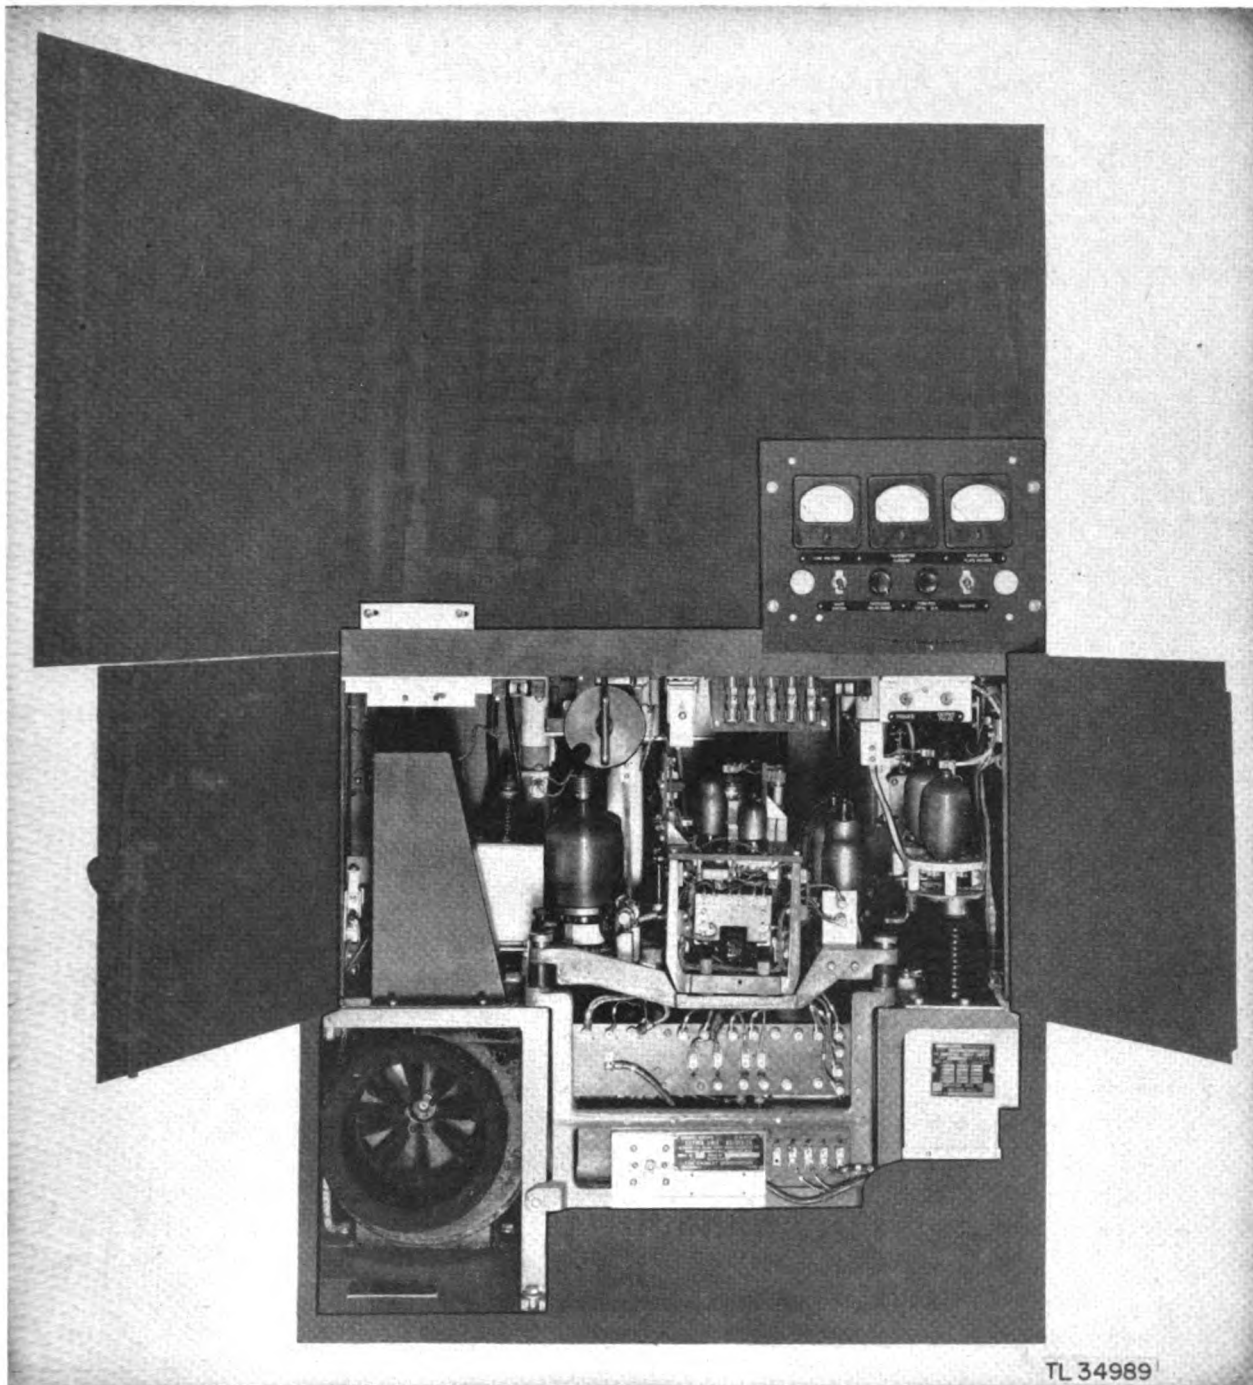

Figure 49. Transmitter system.
a. The transmitter must send out r-f energy in short bursts so that the echoes returning from targets will not be masked by the transmitted energy. The firing of the transmitter is accomplished by the combined action of the driver, the modulator, and the transmitter oscillator. The driver receives a timing voltage from the control central in the control cabinet, gives the voltage the proper shape and amplitude, and by means of the modulator, turns the transmitter oscillator ON and OFF a certain number of times a second. Each time the transmitter oscillator is ON, a pulse goes out into space; each time it is OFF, the equipment is prepared to receive an echo returning from a target. The electrical energy required to develop a pulse of radio frequency energy of sufficient strength is furnished by the high-voltage rectifier. In addition a blower fan is furnished to cool the transmitter oscillator. Aside from some controls and meters located on the control cabinet, the entire transmitter system is located in the transmitter cabinet. Its components are shown in figure 49.
(1) Two RADIATE toggle-type switches which operate a relay to apply high voltage to the modulator tubes. One of these switches is located on the transmitter cabinet and the other on the control cabinet. Because the two switches are connected in parallel, *both* switches must be in the OFF position to remove the high voltage, while only one has to be on to apply it.
(2) Two push-button type RESET switches, one of which is located on the control cabinet and the other on the transmitter cabinet. These reset the overload relay if it has been opened.